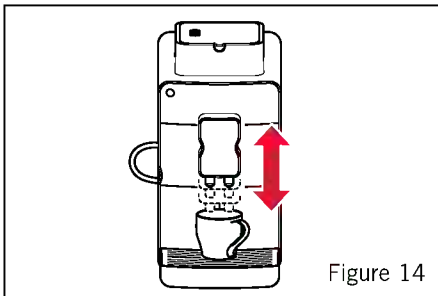

Figure 14
- In order to reduce heat loss and splashing, adjust the height of the dispenser to suit your cup size by moving it up or down. See Figure 14.